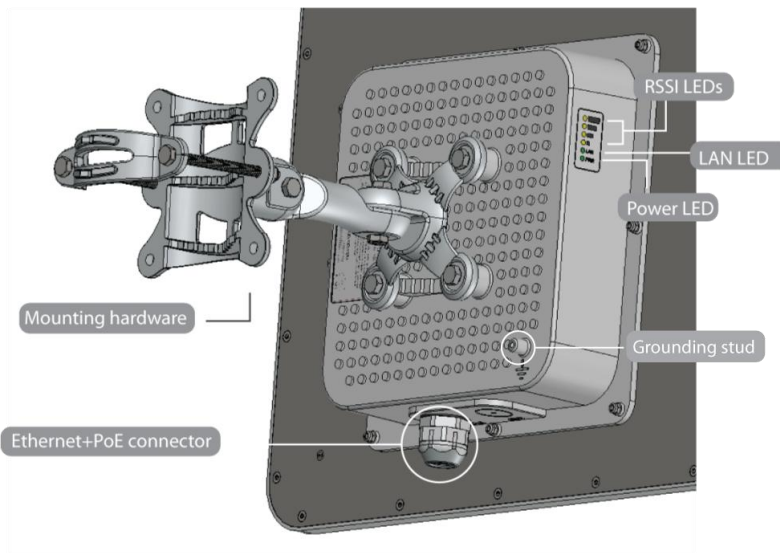

Figure 2 – General View of the APC Mach 5 v2 Unit
The APC Mach 5 v2 has 6 LEDs located on the side panel: power, LAN and 4 RSSI LEDs (refer at the *Figure 2 – General View of the APC Mach 5 v2 Unit* for details). The various states of the LEDs indicate different connection operations as follows:
- Step 2.** Ground the APC Mach 5 unit. The unit must be properly grounded to protect against lightning. The grounding wire must be attached to the grounding stud on the unit (refer at the *Figure 2 – General View of the APC Mach 5 v2 Unit*).
- Step 2.** Ground the APC Mach 5 unit. The APC Mach 5 unit must be properly grounded to protect against lightning. The grounding wire must be attached to the grounding stud on the unit as shown in the *Figure 2 – General View of the APC Mach 5 v2 Unit*.